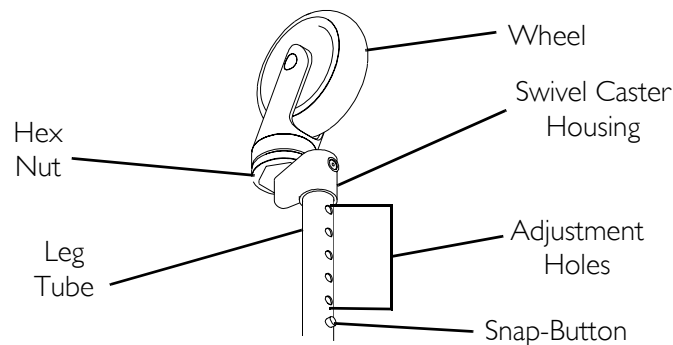

FIGURE 4 Replacing Fixed Wheels/Swivel Casters
NOTE: For this procedure, refer to FIGURE 4 on page 6.
2. Hold one swivel wheel attachment with the wheel up as shown in figure 4.